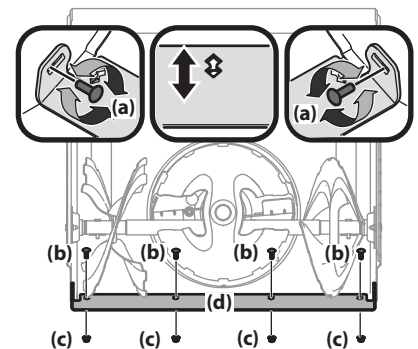

Figure 2-53
3. Loosen rear skid shoe bolts (a) on both sides of auger housing and remove carriage bolts (b) and hex nuts (c) which attach shave plate (d) to the bottom of the auger housing. See Figure 2-53.
- Adjust the shave plate on units with adjustable shave plates so that it is roughly $\frac{1}{8}$ " above the skid shoes. On other units the skid shoes can be adjusted to $\frac{1}{8}$ " below the shave plate. Reinstall and tighten the carriage bolts (b) and hex nuts (c) all bolts securely. See Figure 2-52 and Figure 2-53.